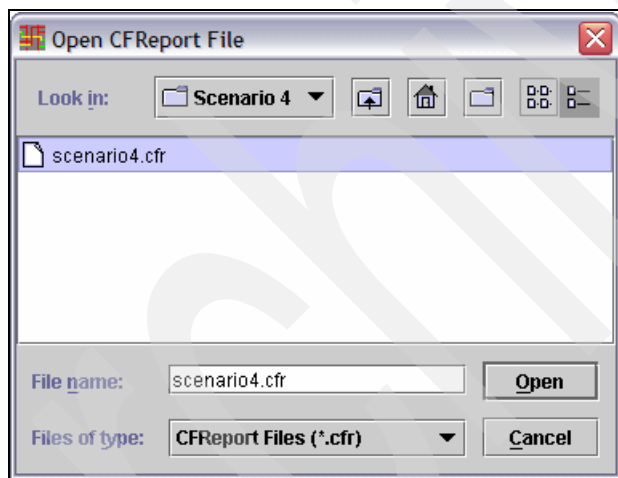

Figure 6-16 CMT - Open CFReport file
3. Select the CFReport file on your workstation to import into the CHPID Mapping Tool and click **Open** (Figure 6-16).